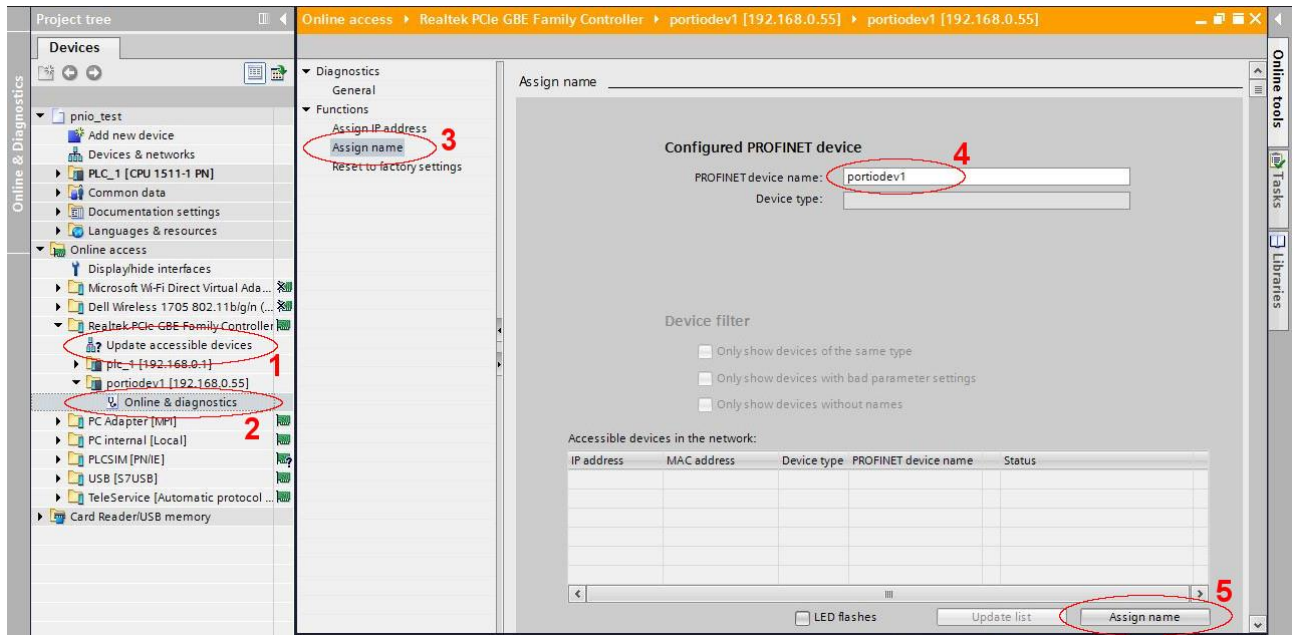

Figure 4-6: Set device name
9. Set the name of RZ/N1 (Figure 4-6):